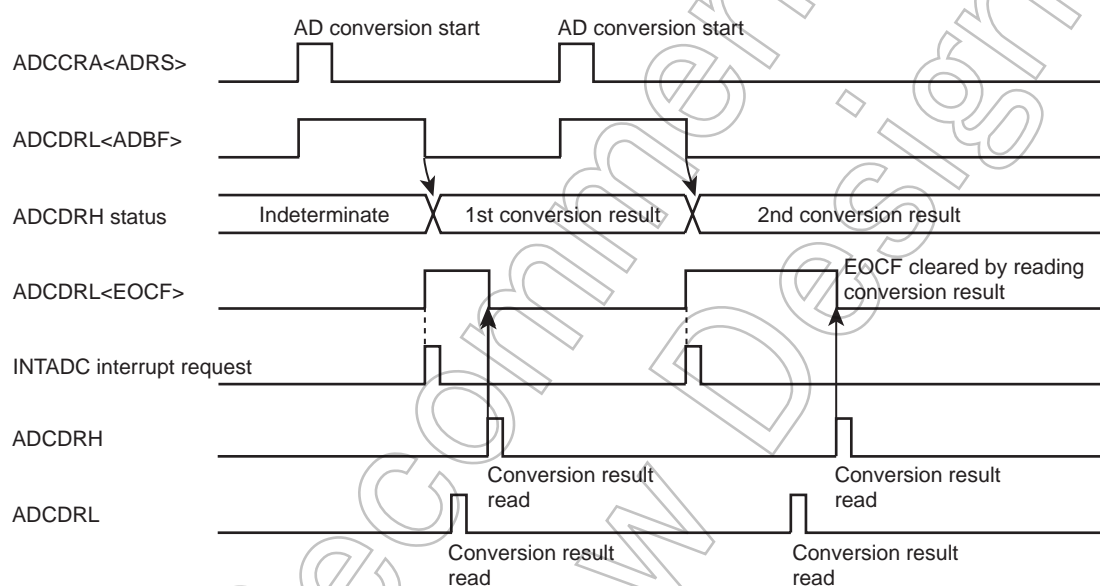

Figure 14-2 Software Start Mode
- Set the AD conversion time using AD conversion time (ACK). For details on how to set the conversion time, refer to Figure 14-1, Figure 14-2 and AD converter control register 2.
- After setting up (1) and (2) above, set AD conversion start (ADRS) of AD converter control register 1 (ADCCRA) to "1". If software start mode has been selected, AD conversion starts immediately.